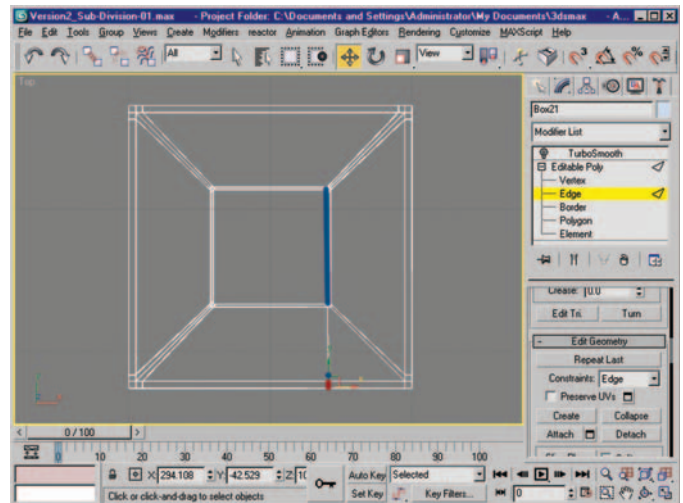

Figure 6.42 Edge selection moved to align with the inner edge of the square opening (blue highlight).
8. In the top viewport move the edge selection with the Move tool so that the selected edges are aligned with the inside edges of the opening in a straight manner (Figure 6.42).